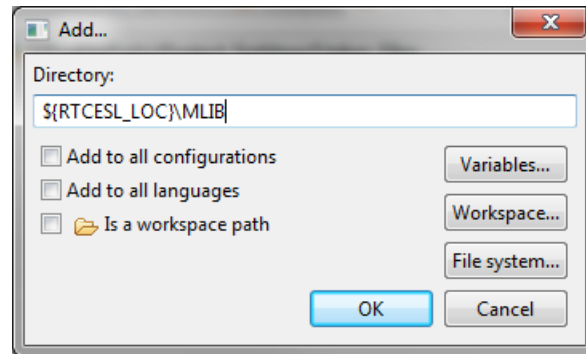

Figure 1-8. Library path inclusion
5. Look for the RTCESL_LOC variable by clicking Variables..., and then finish the path in the box by adding the following (see Figure 1-8): `${RTCESL_LOC}\MLIB`.